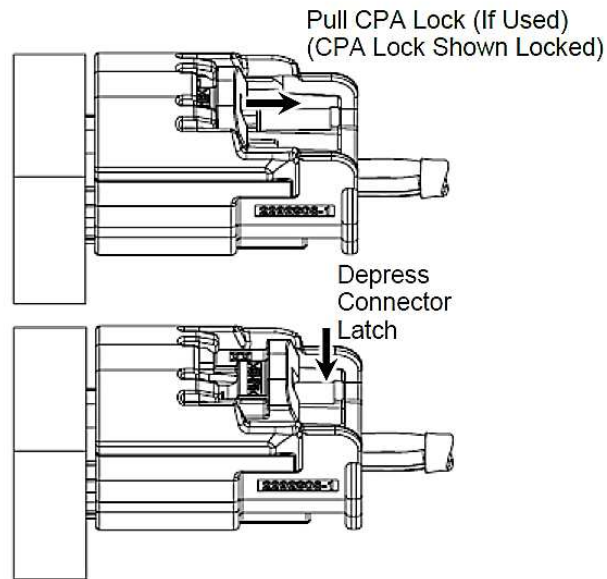

Figure 15
- i. If using the CPA lock, pull back on CPA lock to unlock the connector and mating connector. Refer to Figure 15.